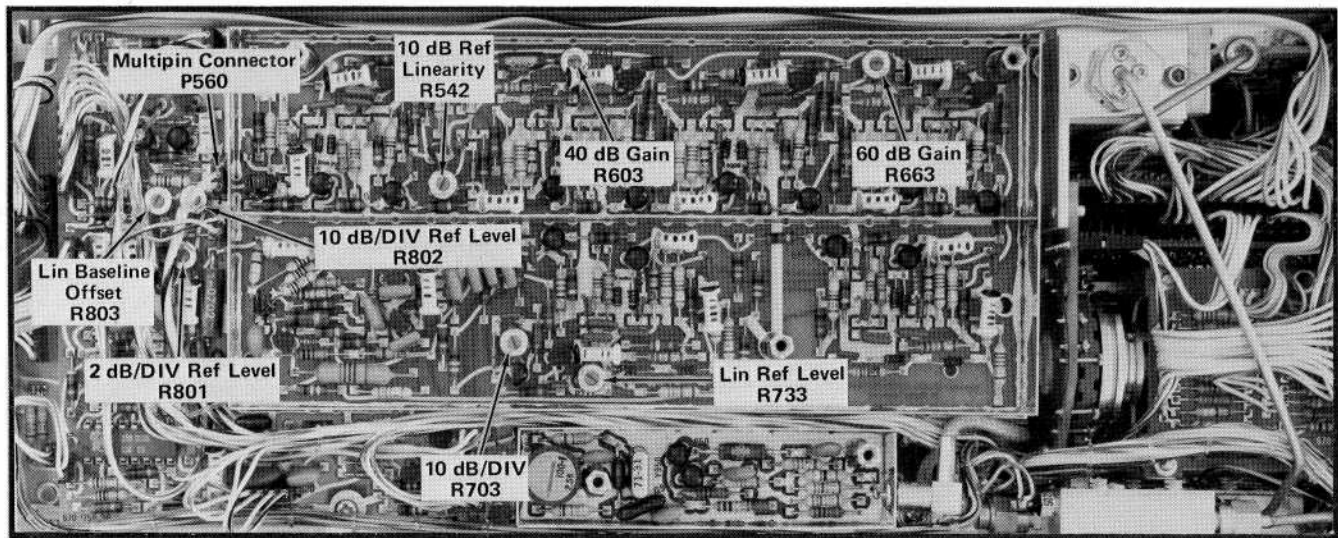

Fig. 4-3. Function IF calibration adjustments and test points.
Pull the harmonica (multipin) connector P560, to pins 1 and 2 on the Function IF circuit board (Fig. 4-3).
b. Adjust the Lin Baseline Offset R803 (Fig. 4-3) clockwise from a fully CCW position to a point where the trace stops moving down. (Do not adjust past this point.)
b. Apply a 10 MHz  $-10$  dBm signal, from a calibrated signal source, through appropriate adapters (BNC female to SEAELECTRO female, SEAELECTRO male to male adapter, and SEAELECTRO female to harmonica connector) to P560 (Fig. 4-3). Note: Part numbers for these adapters are provided under Equipment Required List. If an accurate 10 dB, 50  $\Omega$  step attenuator is available, connect it in series with the signal source.
c. Adjust the 2 dB/Div Ref Level R801 (Fig. 4-3) so the trace is at the 5th graticule line down from the top.
g. Adjust Lin Ref Level R733 (Fig. 4-3) so the trace is at the top graticule line.
i. Calibrate the center screen dynamic range to 20 dB (2 division) by adjusting 10 dB/Div R703 (Fig. 4-3) as the signal input level is changed 20 dB.
j. Set the signal input level to -40 dBm. Adjust 10 dB/Div Ref Level R802 (Fig. 4-3) so the trace is at graticule center.
k. Increase the signal level to 0 dBm then adjust the 10 dB Ref Linearity R542 (Fig. 4-3) so the trace is at the top graticule line.
o. Adjust the 40 dB Gain R603 (Fig. 4-3) so the trace is at the reference level or top of the graticule.
r. Adjust the 60 dB Gain R663 (Fig. 4-3) so the trace is at the reference level.